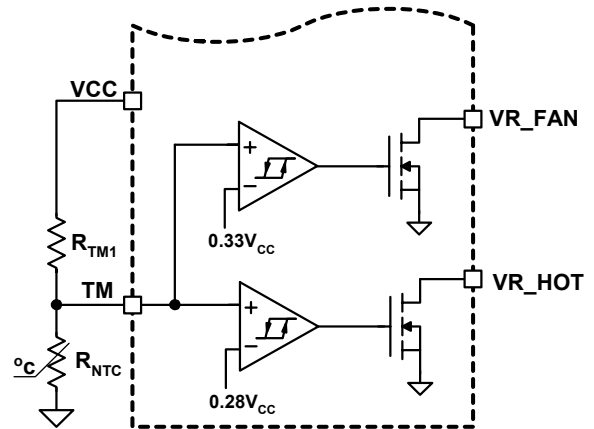
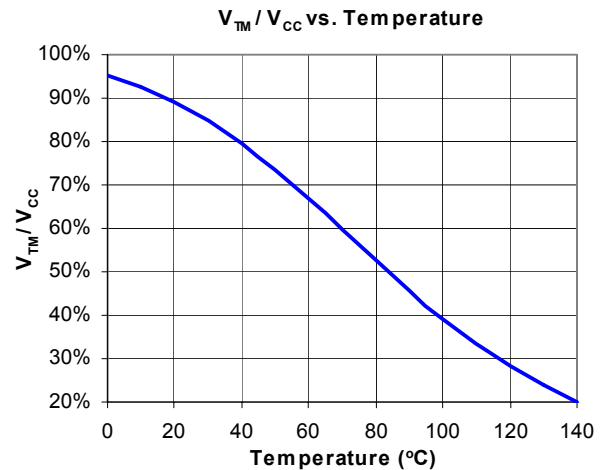

FIGURE 14. BLOCK DIAGRAM OF THERMAL MONITORING FUNCTION
FIGURE 15. THE RATIO OF TM VOLTAGE TO NTC TEMPERATURE WITH RECOMMENDED PARTS
The diagram of thermal monitoring function block is shown in Figure 14. One NTC resistor should be placed close to the power stage of the voltage regulator to sense the operational temperature, and one pull-up resistor is needed to form the voltage divider for TM pin. As the temperature of the power stage increases, the resistance of the NTC will reduce, resulting in the reduced voltage at TM pin. Figure 15 shows the TM voltage over the temperature for a typical design with a recommended 6.8kΩ NTC (P/N: NTHS0805N02N6801 from Vishay) and 1kΩ resistor RTM1. We recommend using those resistors for the accurate temperature compensation.
Based on  $V_{CC}$  voltage, ISL6306 converts the TM pin voltage to a 6-bit TM digital signal for temperature compensation. With the non-linear A/D converter of ISL6306, TM digital signal is linearly proportional to the NTC temperature. For accurate temperature compensation, the ratio of the TM voltage to the NTC temperature of the practical design should be similar to that in Figure 15.
1. Properly choose the voltage divider for TM pin to match the TM voltage Vs temperature curve with the recommended curve in Figure 15;